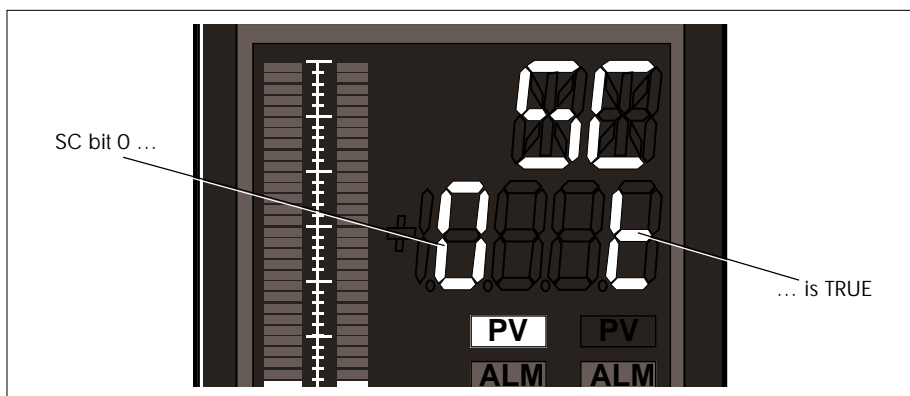

Figure 3-10 Viewing the bits in a hexadecimal parameter — example
- 2 Press PAR once to view the parameter’s bit 0 value in the 4¹/₂-digit display. This is shown with the bit number at the left of the display and its value — **t**(rue) or **F**(alse) — at the right. Figure 3-10 shows an example. If bit 0 is the one you want to edit, go straight to step 4.